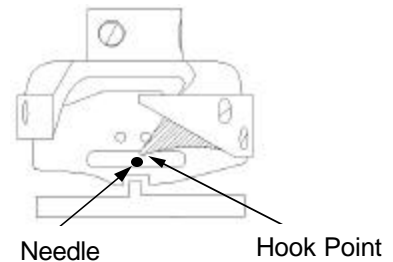

Figure 2
- Using a Philips head screwdriver, remove thread guide and cover from front of sewing head. See figure 2
6. Rotate handwheel so hook spins counter-clockwise and stop when Hook Point is directly behind needle. (This should occur at 24° on degree wheel) See figure 2
10. Continue to rotating handwheel until needle rises 2-3mm (24° on degree wheel). Middle of needle scarf will be even with outer edge of Hook Assembly. See Figures 2 & 3